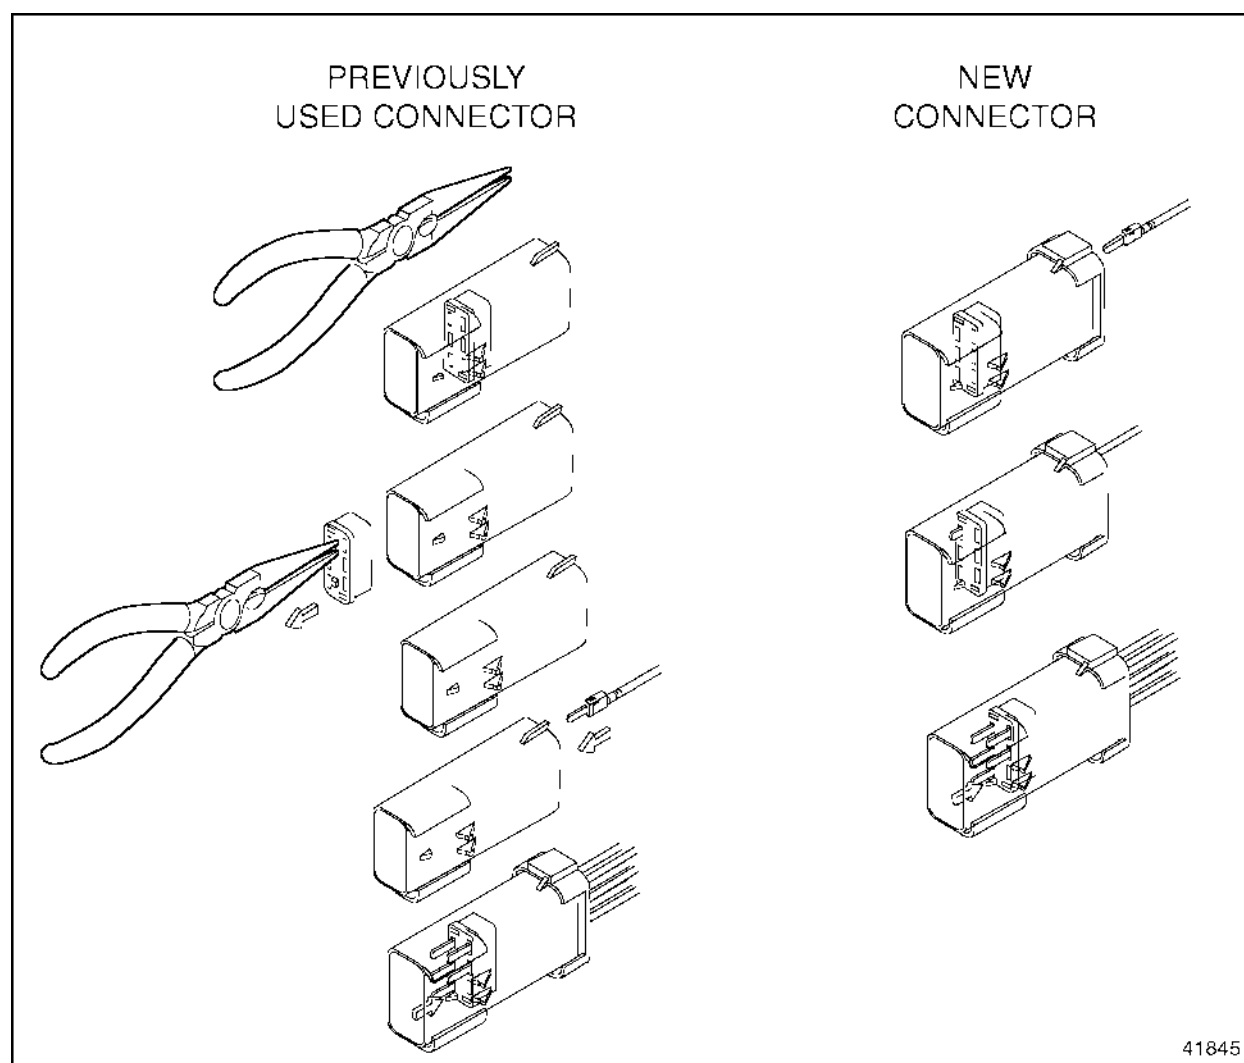

Figure 3-40 Installing the FCI Male Terminal
- [b] If the connector is used, pull the TPA out (see Figure 3-40).
2. Insert the crimped terminal into the connector until it clicks (see Figure 3-40). The orientation of the terminal is not critical.